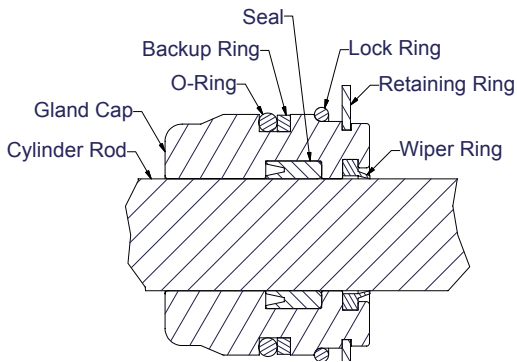

Figure 5-6, Gland Cap Seal
3. Install the seals and wipers in the gland cap. Note the direction of the seals. The cupped side or O-Ring side of the seal should be facing the piston. (Figure 5-6)